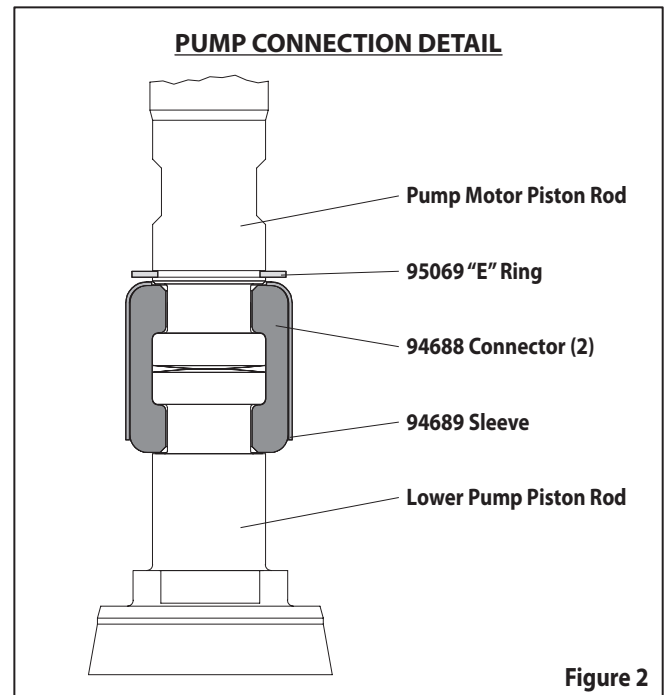

Figure 2
5. Using e-ring pliers, slide the "e" ring up far enough to allow the sleeve to move upward and release the two connectors (see figure 2).